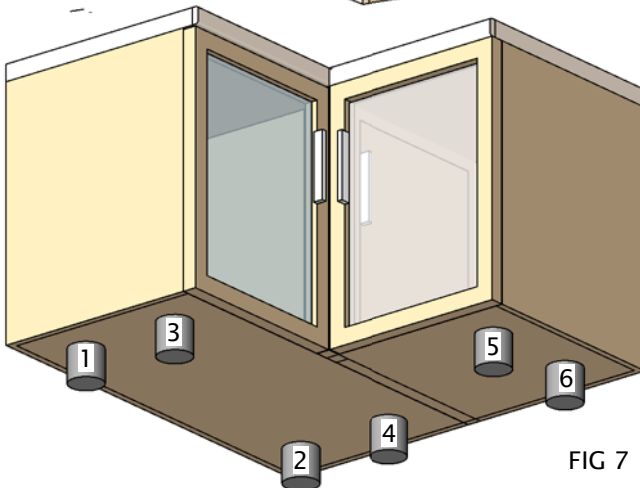

FIG 7
To Create Legs, adjust the parameter *LEGS VISIBILITY* on which controls & switches the visibility on of the Legs as shown in Fig 7
*LEGS VISIBILITY* is a Integer visibility parameter for each leg, so each number will switch on the visibility as shown in Fig 7
If the *LEGS VISIBILITY* is on integer 0, then all legs will switch off and the result will be Fig 7